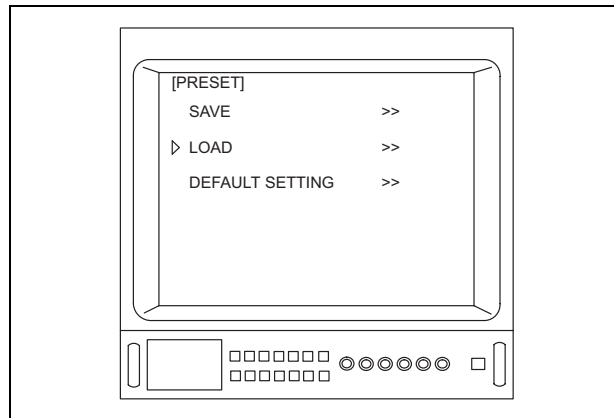

Figure 5.80
4. Depress the menu switches “◀” or “▶”, or the “↑/↓/←/→” key on the keyboard to move the arrow “▷” to “LOAD”.(see Figure 5.80).